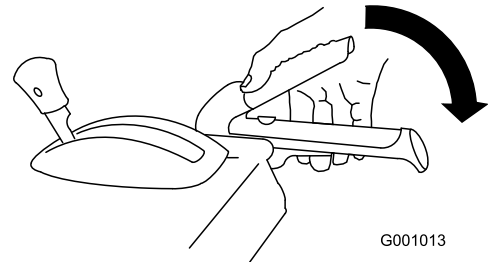

Figure 30
1. To engage the auger/ impeller drive, squeeze the right hand (auger/ impeller) lever to the handgrip (Figure 30).